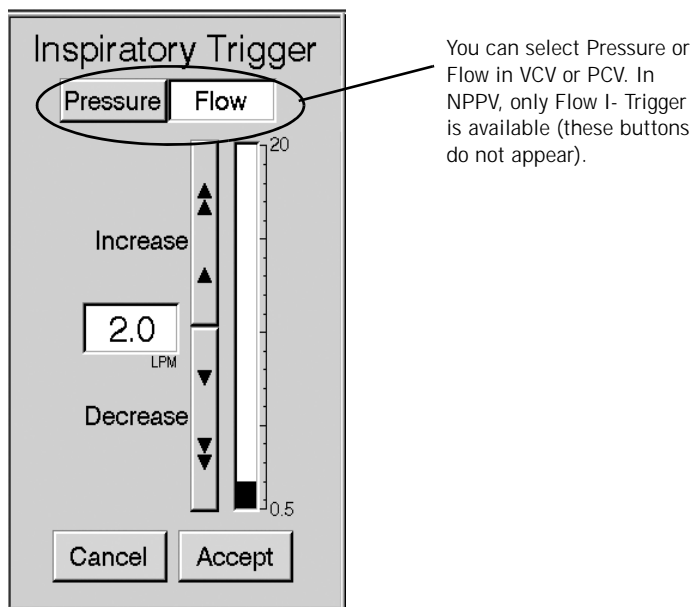

Figure 8-21: Inspiratory Trigger Window
2. Push the I-TRIGGER button. The inspiratory trigger window insert (Figure 8-21) appears.